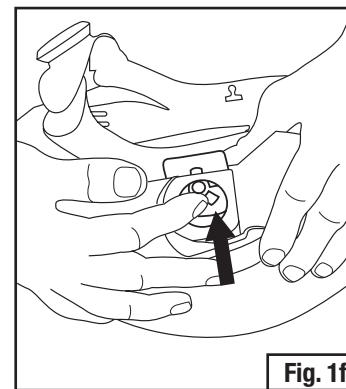

Fig. 1f
- If replacing the welding knob and pivot kit or new installation on an existing helmet, push back plate out from shell slightly (towards outside of headgear) and slide out from slot on headgear shell to remove. Gently use a tool if necessary (e.g. manual flat-blade screwdriver) (Fig. 1f).